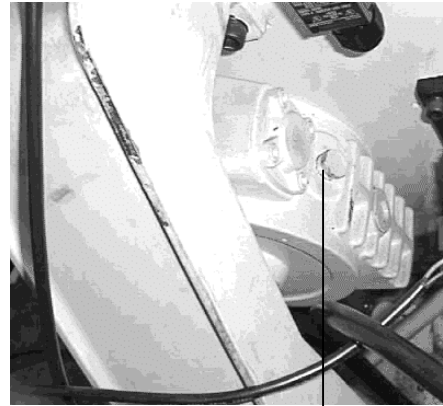

Fig.22 A
4. Drain the gearbox by removing the screw away from the oil-out hole (A) (fig. 22).